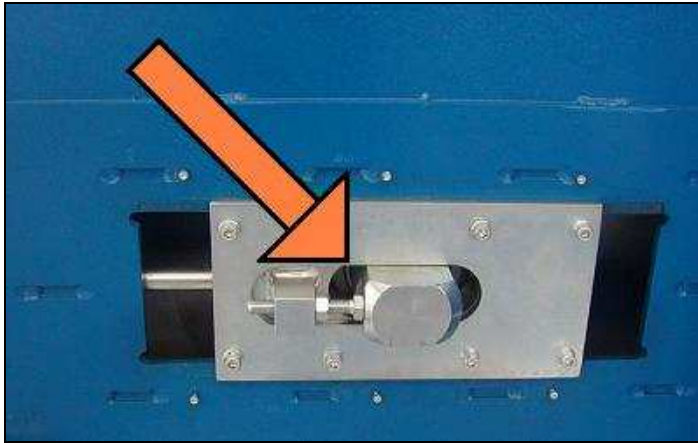

**fig. 4 Blade's protection adjustment**
- Loosen the handwheel A and B (see fig. 4)
- Adjust the blade's guide and the blade's protection by sliding forward or backward according to the pipe's diameter. (see fig. 4)
- Tighten again the handwheel A and B. (see fig. 4)